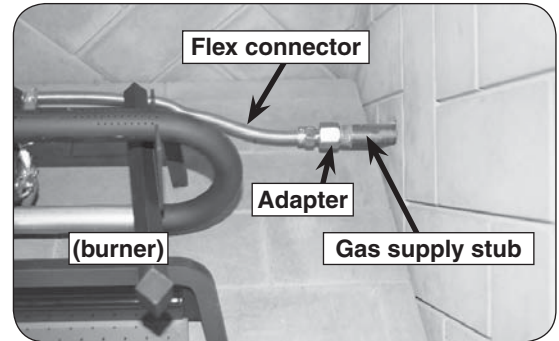

Fig. 14-1 Connect gas supply
2. Locate the gas-supply stub inside the fireplace and remove the cap, if attached (reference Fig. 14-1).
4. **Be sure gas to the fireplace is off.** Remove the adapter connected to the flex connector (pre-installed on the burner system). Attach the adapter to the gas-supply stub using a pipe compound resistant to all gasses. Tighten securely. Then attach the open end of the flex connector to the adapter. Tighten securely. (See Fig. 14-1.)